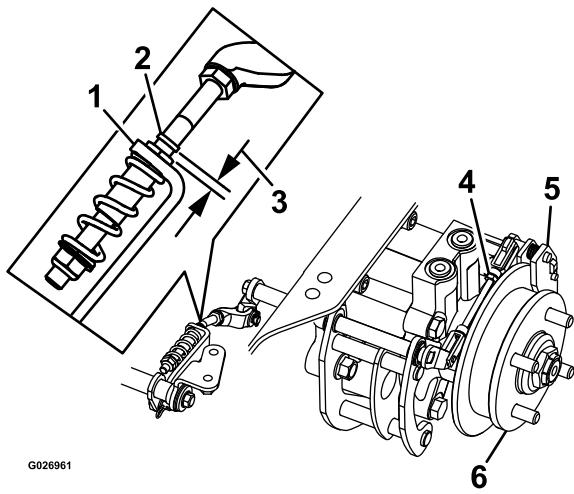

Figure 71
8. Check if there is a visible gap between the L-bracket and the linkage stop (Figure 71).